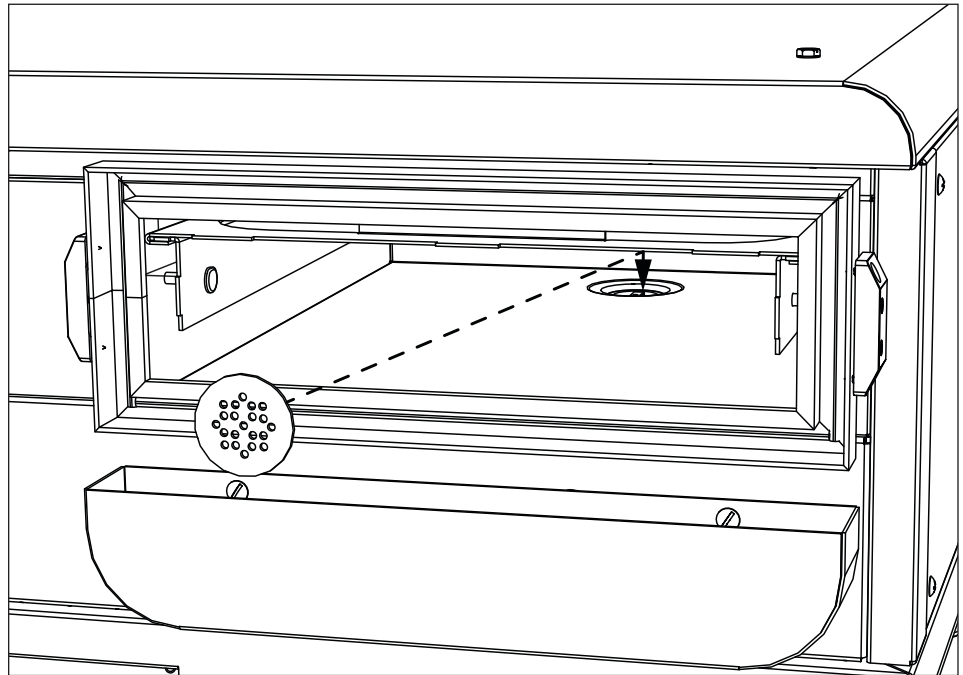

Figure 14. Cavity Drain Screen Removal
3. Remove both cavity drain screens and rise clean of any debris (Figure 14).